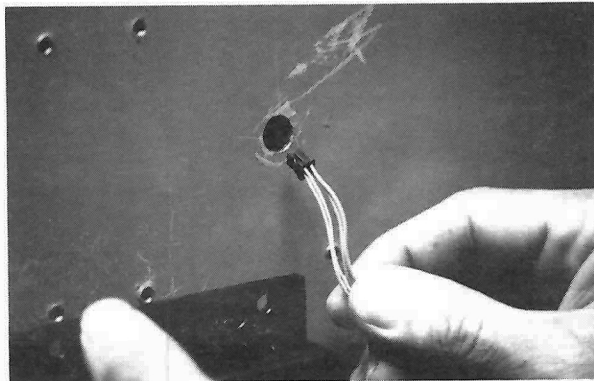

Figure 7
12. Center punch and drill two (2) 1/8" (3.17mm) base mounting holes.
13. Feed the lock cable through the door. Refer to the photographs in Figures 7 and 8. Mount the lock to the door with two (2) #10 screws. Make sure the cable is not pinched between the lock base and door.